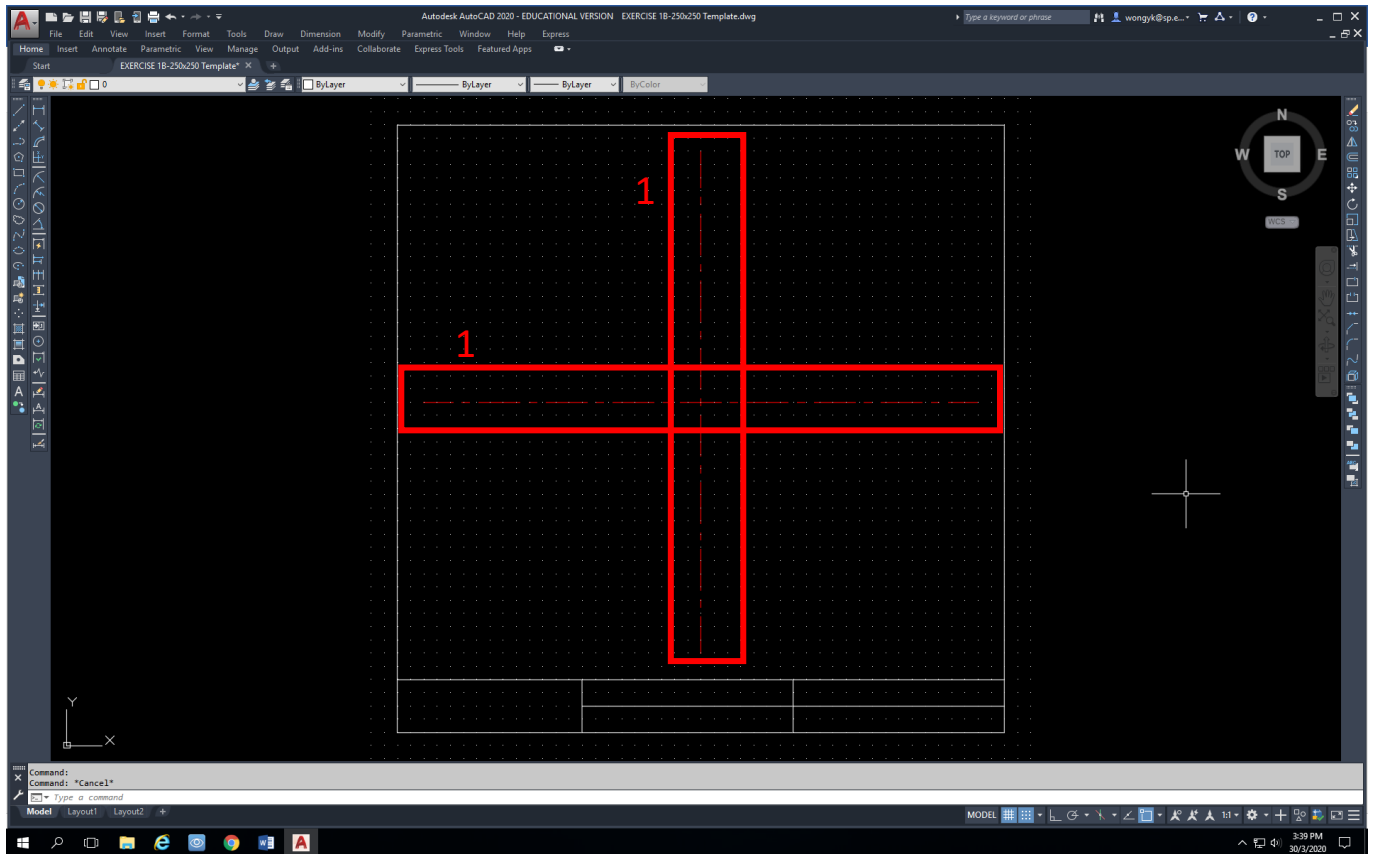

Fig 9
iii. The lines will appear as **Center lines (1)** and **color red** as set in the beginning. See Fig 9 as shown.